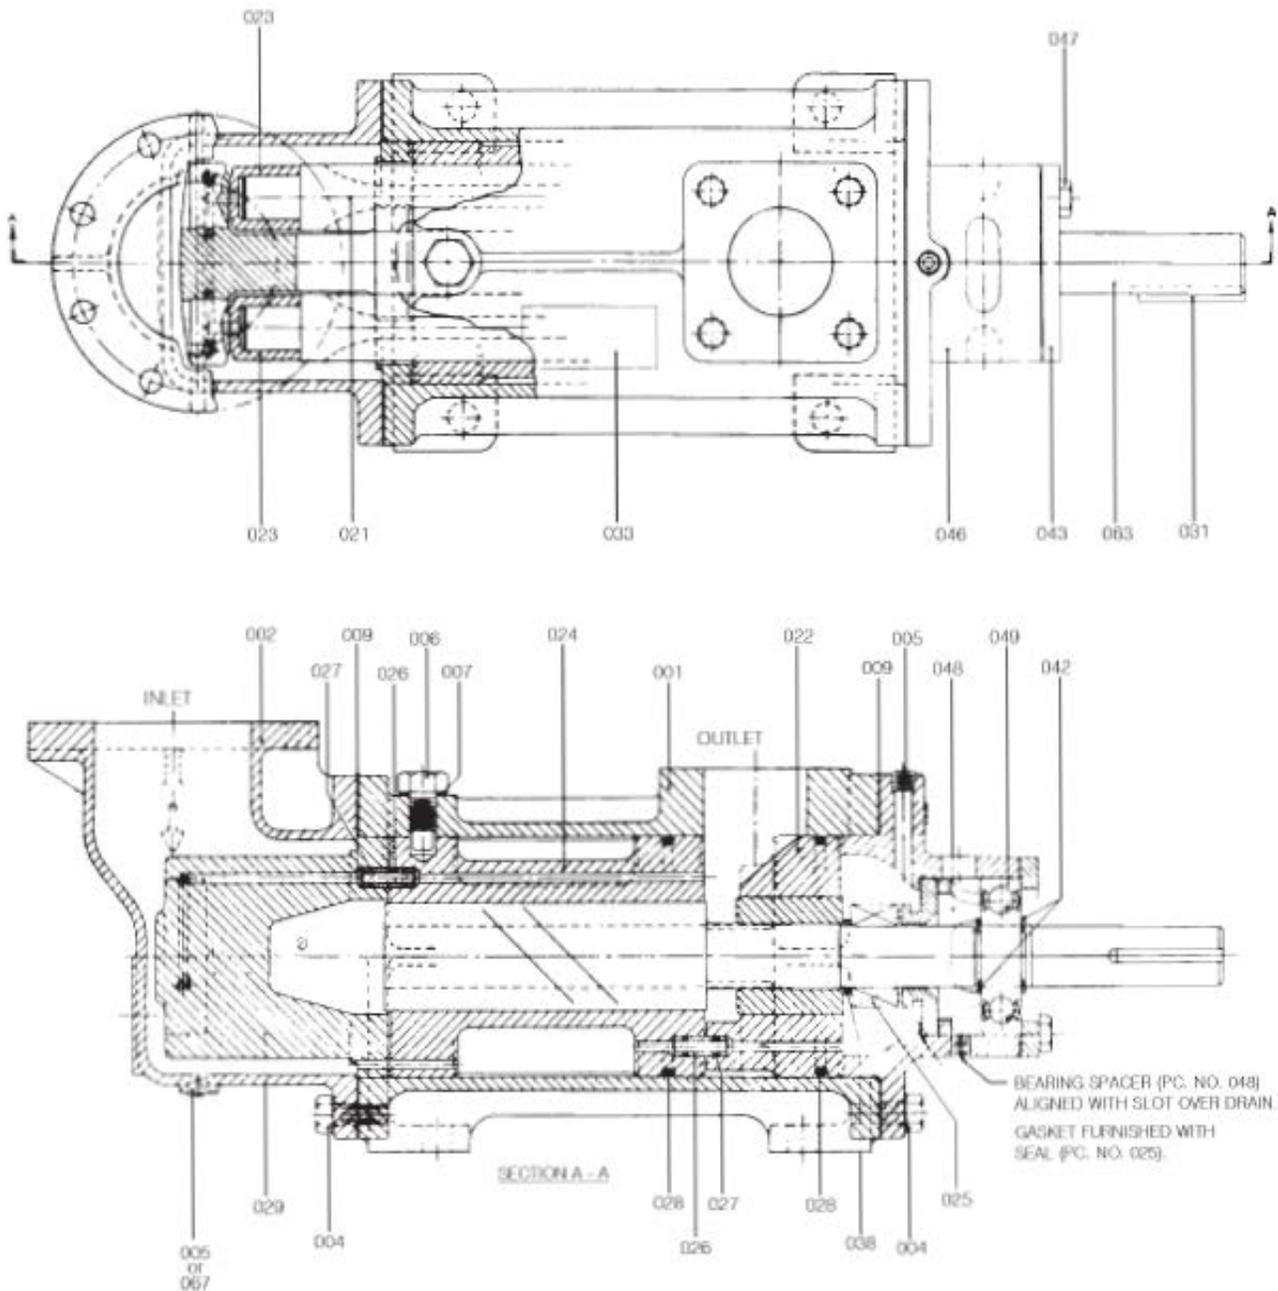

Figure 7. A3D-218, 250, 275, & 312
(Figures 7, 8, 9) Install sleeve (038) on power rotor (044 or 063) shaft next to piston.